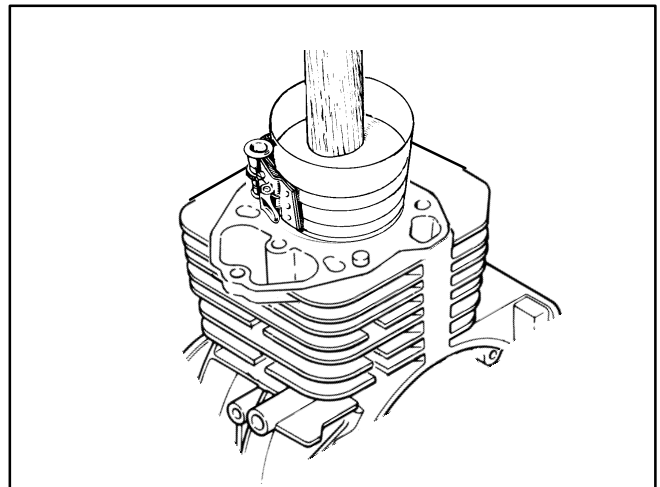

FIGURE 10-35. INSTALLING PISTON
2. Lubricate the piston assembly and inside of cylinder wall. Compress the rings with a ring compressor as shown in Figure 10-35.